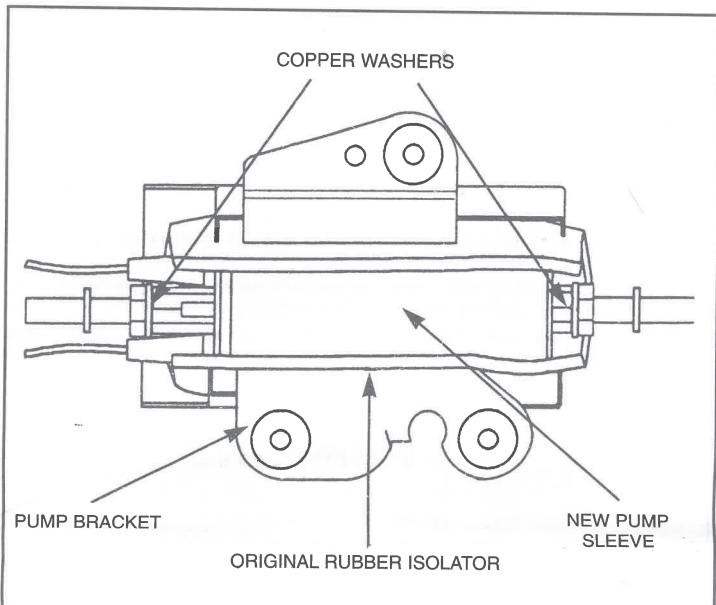

FIG. 1
A) Install a new rubber sleeve onto the new fuel pump (Figure 1).
B) Install the fuel fittings onto the new fuel pump with the copper washers between the pump and fittings (Figure 1). Torque to 200 inch pounds.
D) Install the new positive (+) ring terminal onto the positive (+) 6-32 threaded terminal post on the fuel pump. Install the lock washer onto the stud. Thread the 6-32 nut onto the stud and tighten to ten (10) inch pounds.
E) Install the new negative (-) ring terminal onto the negative (-) 6-32 threaded terminal post on the fuel pump. Install the lock washer onto the stud. Thread the 6-32 nut onto the stud and tighten to ten (10) inch pounds.
F) Wrap the fuel pump with the original pump isolator sleeve (saved from removal procedure) and install this assembly into the metal fuel pump retainer bracket. Be sure the pump inlet and outlet are oriented properly in relation to the bracket (Figure 1).